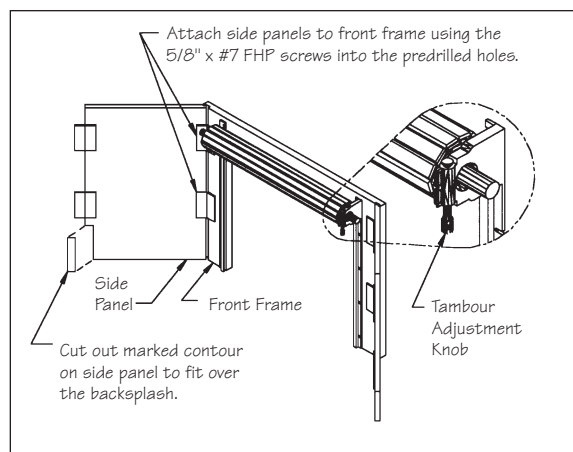

Figure 1
- 2 Temporarily attach side panels to the front frame using the 5/8" x #7 FHP screws. Screw through the plastic mounting brackets into the predrilled holes (4 places). See Figure 1.
- 5 Place side panels in vise or clamp securely in suitable manner, taking care to protect finish from damage. Using fine tooth hand saw, cut out backsplash contour marked on the side panels in Step 3. Reattach side panels. See Figure 1.